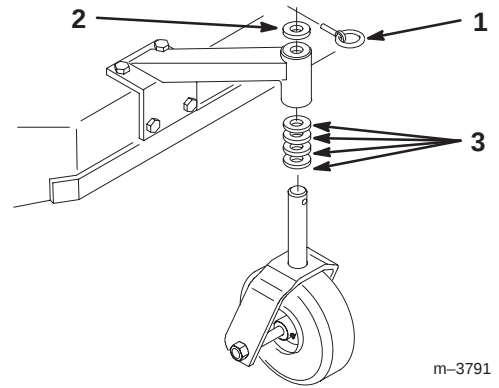

Figure 21
1. Using the height-of-cut chart, adjust the caster spacers to match with the axle hole selected (Fig. 21).
2. Remove clevis pin, slide caster from support and change spacers (Fig. 21).
3. Install caster in support and insert clevis pin (Fig. 21).